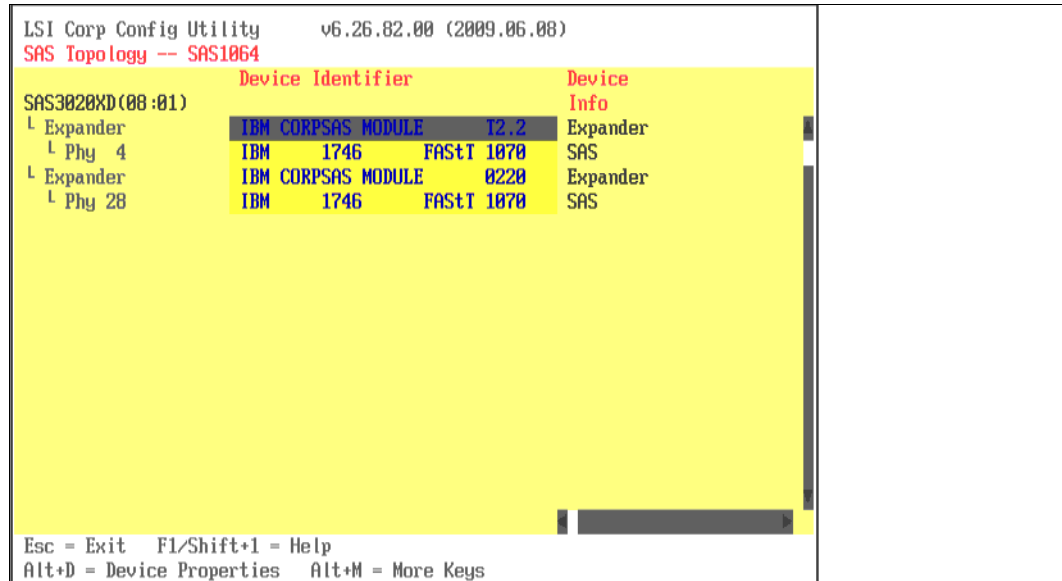

Figure 16-6 SAS Expansion Card - LSI Logic Config Utility adapter confirmation
- The name of the SAS adapter for the expansion card is SAS3020XD and is visible in the Adapter List window. To determine whether the SAS adapter is the expansion card, select a SAS adapter and use the View SAS Topology window to display whether the SAS adapter is connected to the internal hard disk drives or to the SAS Connectivity Modules in your BladeCenter chassis, as shown in Figure 16-6.